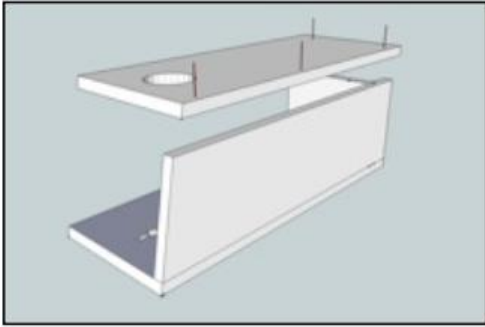

Figure 5: Fix Front Panel to the Fixed Side & Base Panels.
- Nail the FP to the SP using 3 nails along the length - top, middle and base. (Fig 5)
- Place the "Door" panel (DP) between the FP and BP to complete the box.